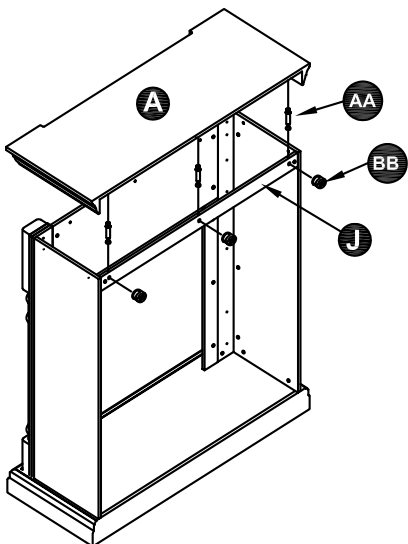

Figure 6
6. Flip the previously assembled frame and insert the cam Locks (BB) into the Back crossbar (J). Screw the cam Dowels (AA) into the Top (A). Secure it by tightening the cam Locks (BB), as shown in Figure 6.